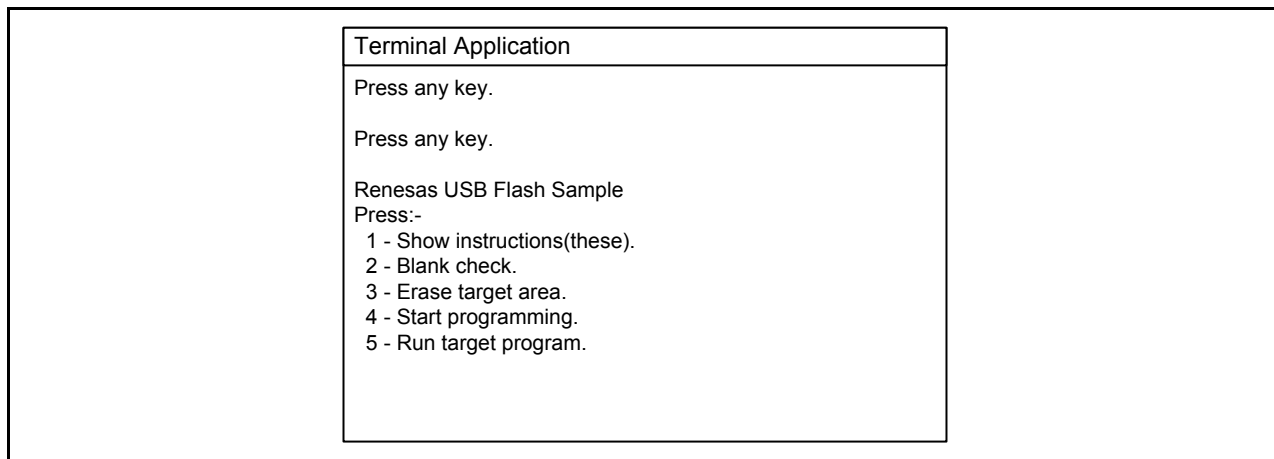

Figure 5.3 Screen Example for Inputting a Command
- (2) When the MCU receives data from the PC, it transmits the command list to the PC and waits for receiving a command data. See Figure 5.3 below.
- (3) When a command is received, the MCU performs the operation (command display, blank check, erase, program, or target program execution) according to the command.